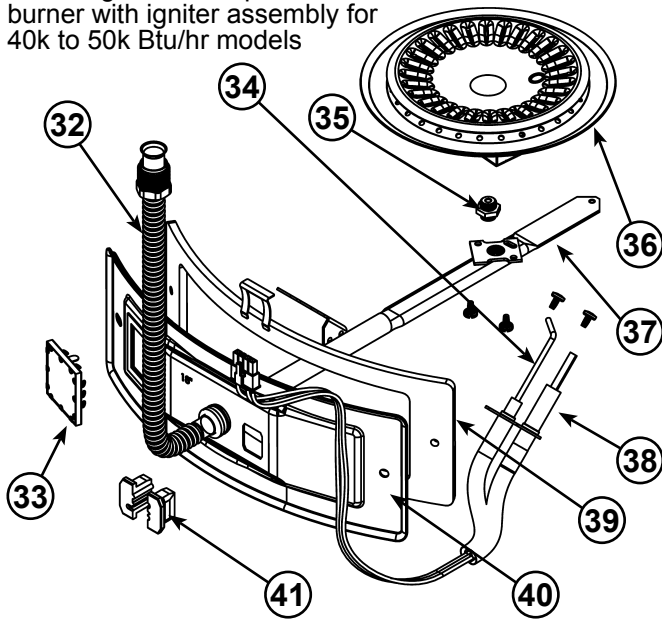
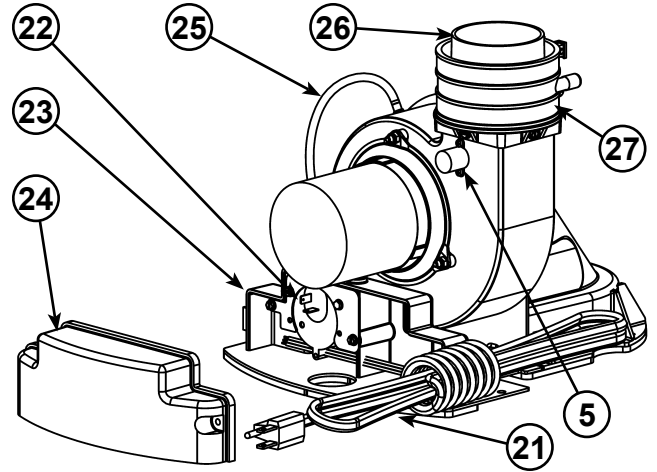

Figure 3
Figure 6
| 1. Vent Termination Elbow with Rodent Screen                       | 18. **Combo Heating System Return Inlet (Optional)  | 34. Flame Sensor Rod (see Figures 3 & 4)                      |
| 2. *Vent Pipe  | 19. Air Inlet Snorkel                               | 35. Gas Orifice (see Figures 3 & 4)                           |
| 3. *Vent Pipe Coupling (if required)                               | 20. **Combo Heating System Supply Outlet (Optional) | 36. Sheet Metal Burner (see Figures 3 & 4)                    |
| 4. *Vent Pipe Elbow (long radius)                                  | 21. Blower with Power Cord (see also Figure 6)      | 37. Gas Manifold (see Figures 3 & 4)                          |
| 5. Blower High Limit Switch (see Figure 6)                         | 22. Air Switch (inside box) (see Figure 6)          | 38. Hot-Surface Igniter (see Figures 3 & 4)                   |
| 6. T&P Valve   | 23. Junction Box (see Figure 6)                     | 39. Manifold Door Gasket (see Figures 3 & 4)                  |
| 7. Cold-Water Inlet Nipple/Diptube                                 | 24. Junction Box Cover (see Figure 6)               | 40. Manifold Door (see Figures 3 & 4)                         |
| 8. Baffle Assembly   | 25. Air Tubing (see Figure 6)                       | 41. Two Piece Grommet With Clip (see Figures 3 & 4)           |
| 9. * Discharge Pipe  | 26. Rubber Coupling (see also Figure 6)             | 42. *Inlet Water Shut-off Valve                               |
| 10. Gas Control Valve/Thermostat (Honeywell)                       | 27. Gear Clamp (see also Figure 6)                  | 43. *Gas Supply*  |
| 14. Manifold Door Assembly (behind outer door) (see Figures 3 & 4) | 31. ***Control Harness                              | 47. *Union (water connection)                                 |
| 15. *Floor Drain   | 32. Flexible Manifold Tube (see Figures 3 & 4)      | 48. Rating Plate  |
| 16. *Metal Drain Pan   | 33. Viewport (see Figures 3 & 4)                    | 49. *Thermal Expansion Tank (required for all closed systems) |
This device is located on the blower (see Figure 6, item 5) and limits the maximum temperature of the blower. If the blower temperature rises above the temperature setting, the switch opens causing the heater to shut down. The switch will auto reset once the temperature drops sufficiently.
This device, located in the junction box, monitors the air pressure produced by the blower. In the event that the exhaust venting becomes blocked or sufficiently restricted, the switch will shut the heater down (see Figure 6, item 22).